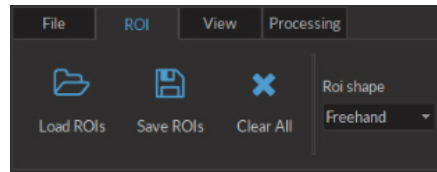

Figure 3.29: ROI Tab
2. The **ROI tab** (Fig. 3.29) is used to save/load data relating to regions of interest drawn on an image.